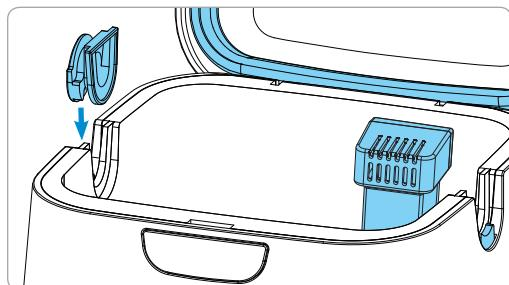

Figure 6. Install Removable Hose Slot Plug
2. Install the Removable Hose Slot Plug into one open slot (figure 6).
Orient the Removable Hose Slot Plug as shown in figure 6. The round face of the Removable Hose Slot Plug is outside of the SoClean 2.